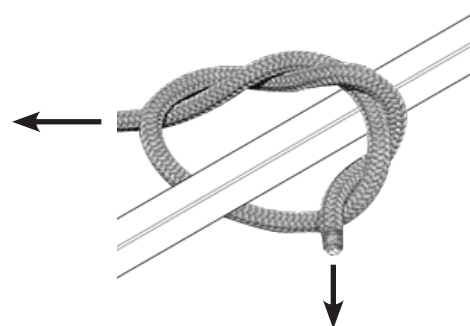

FIGURE 5
8. a. Tie one end of the provided 9' rope to the link welded onto the stabilizer bar, just in front of the tree hugger. **Be sure your double knot is secure. SEE FIGURE 5.**
b. Tie one end of each of the provided 15' ropes to the square tube side rails and tree blade frame, just in front of the welded on tree blade. **Be sure your double knots are secure. SEE FIGURE 5.**